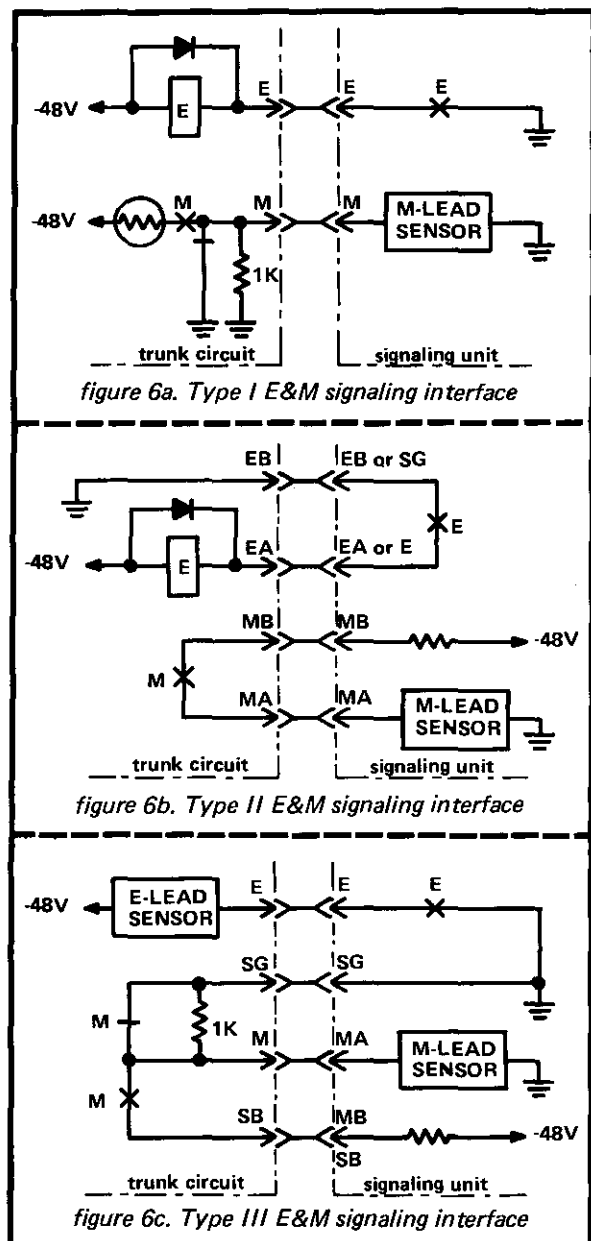

figure 6. E&M signaling interfaces
2.10 The 9662 accommodates both single-lead and looped-signaling-lead E&M interfaces. The conventional single-lead (Type I) format is used in electromechanical switching system environments, while the newer looped formats (Type II and Type III interfaces) are used in electronic switching system environments. Figure 6 shows the connections required for Type I, II, and III E&M signaling interfaces.